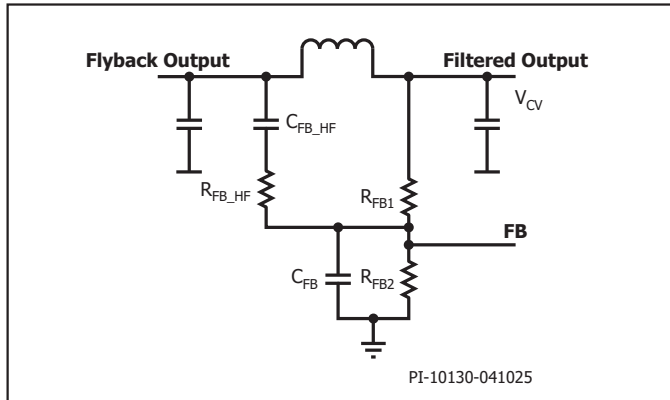

Figure 19. Output Feedback Circuit.
As shown in Figure 19, this is a typical feedback circuit for InnoMux-2 with an external feedback pin (FB). External feedback pins are used only for 2CV and 3CV applications, whereas LED applications rely on internal feedback circuits. An inductor is used to reduce ripple and